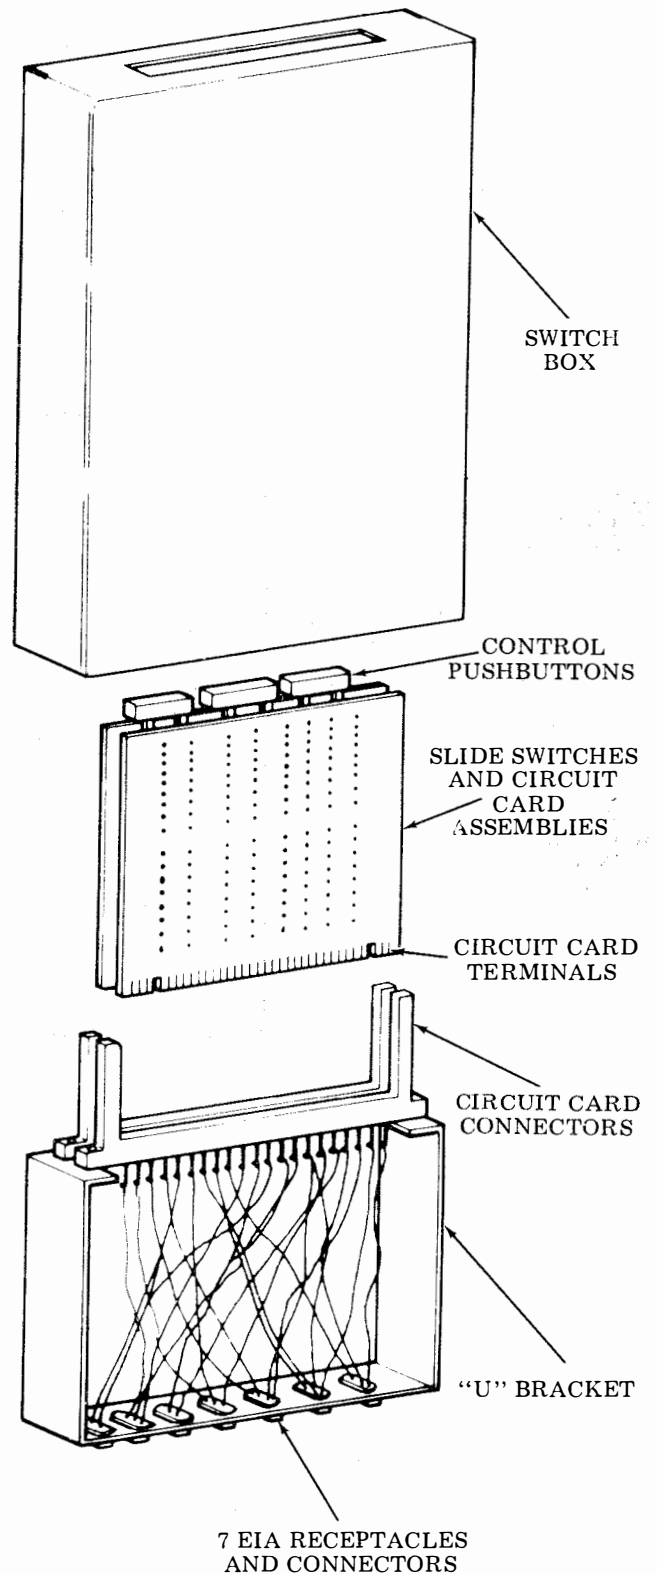
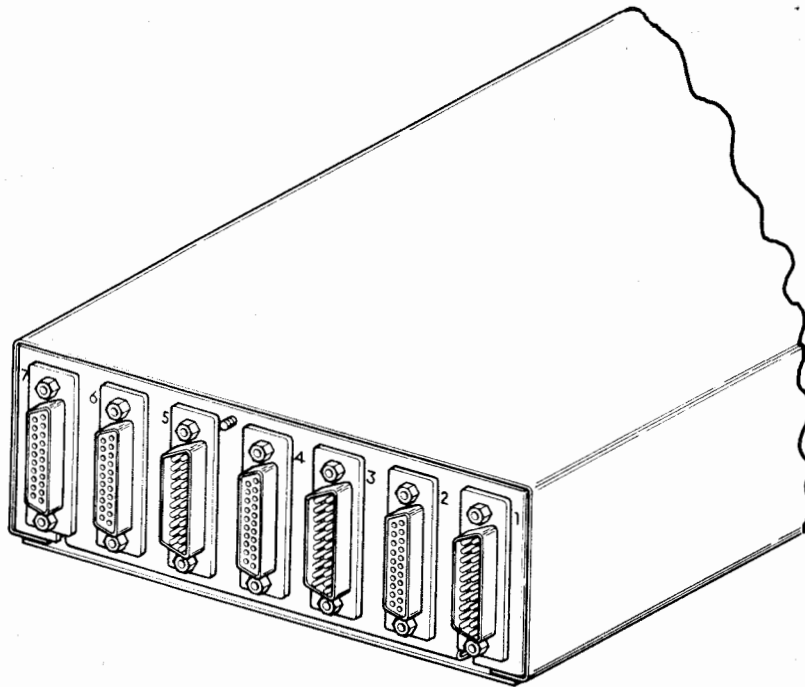
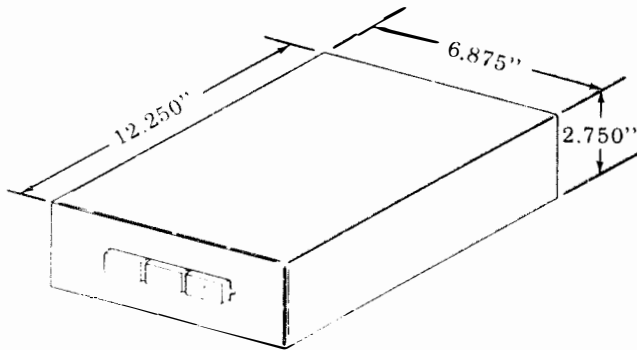

Figure 7 - Component Configuration
Figure 9 - Switch Assembly Receptacles
Figure 13 — DATASPEED EIA Switch Assembly Dimensions
2.01 The Model 40 EIA 345630** switch assembly consists of three interlocking slide switches mounted between two circuit cards. All interconnections between switches are made through the circuit cards. The circuit card terminals connect to connectors that are wired to the EIA receptacles on the back of the switch assembly (Refer to Figure 7.)
2.04 The switch assembly is contained in a rectangular metal box (see Figure 13 for dimensions). The rear plate of the box (which includes the EIA receptacles and connectors, Figure 9) is formed by the bottom of the "U" bracket; two 36-pin circuit card connectors are mounted to the top of the bracket (Figure 7). Wiring from the card connectors goes to the seven EIA receptacles and connectors mounted in the bottom of the "U" bracket.
5.01 The switch assembly which includes two circuit cards, three pushbutton switch assemblies, factory wiring from circuit cards to receptacles, and a metal box enclosure weighs approximately 3 pounds. Switch assembly dimensions are shown in Figure 13.